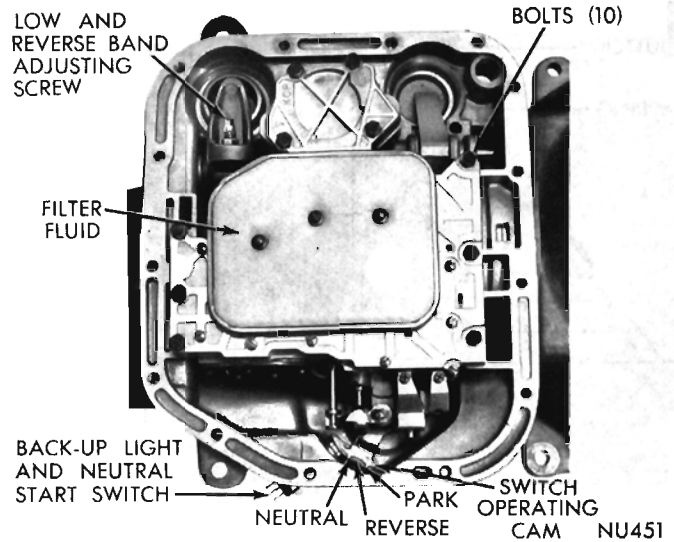

Fig. 13—Bottom View of Transmission (Pan Removed)
(1) Raise vehicle, drain transmission fluid and remove the oil pan.
(2) Loosen adjusting screw lock nut and back off nut approximately five turns (Fig. 13). Test adjusting screw for free turning in the lever.
(3) Using wrench, Tool C-3380 with adapter C-3705, tighten band adjusting screw 47 to 50 inch-pounds. If adapter C-3705 is not used, tighten adjusting screw to 72 inch-pounds which is the true torque.